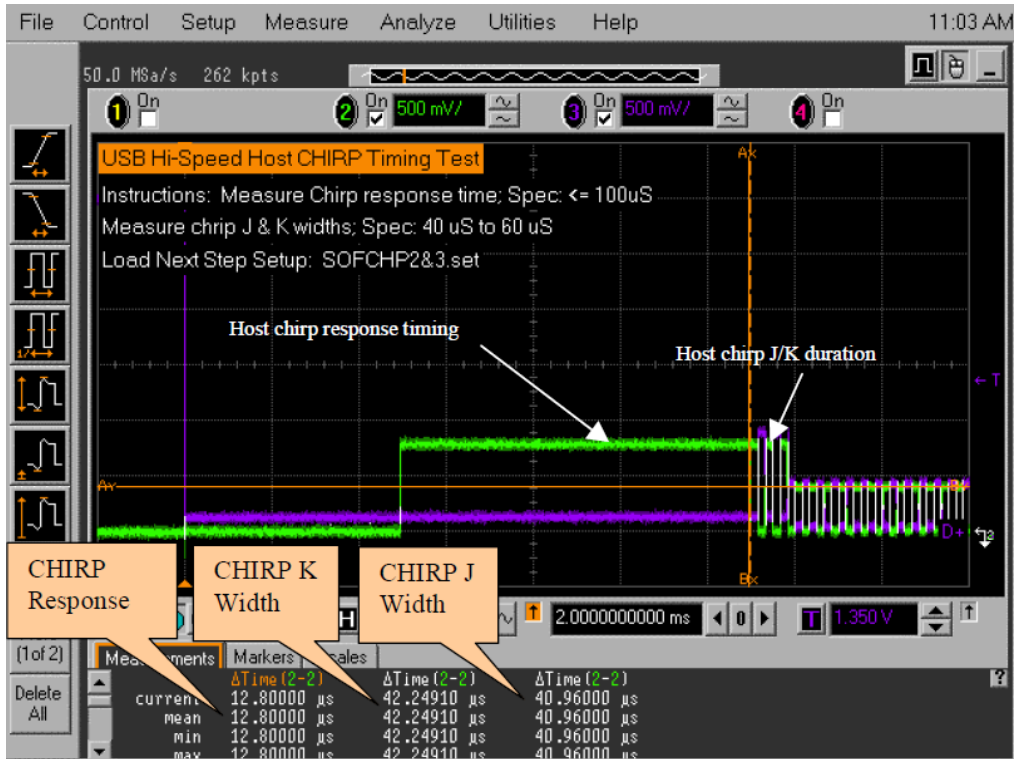

Figure 74. Host CHIRP J/K waveform
4. Connect a good high-speed device to the initialize port. You must capture the CHIRP handshake as shown in Figure 74.